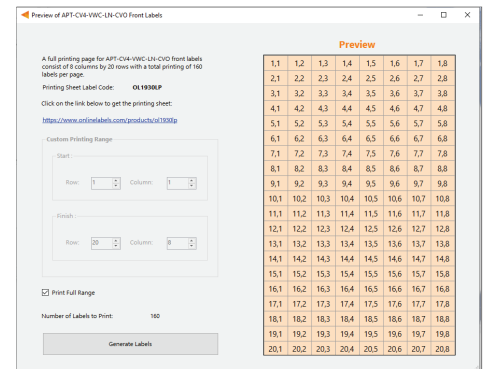

Figure 13: Label generation print preview window
- 1 Select **File > Generate Label** or press **Ctrl +L** to open the Label Generation window (shown in Figure 13).
- 4 Input the starting and finishing rows and columns that will fit on the back or front labels. The selected range is highlighted in blue (Figure 13).